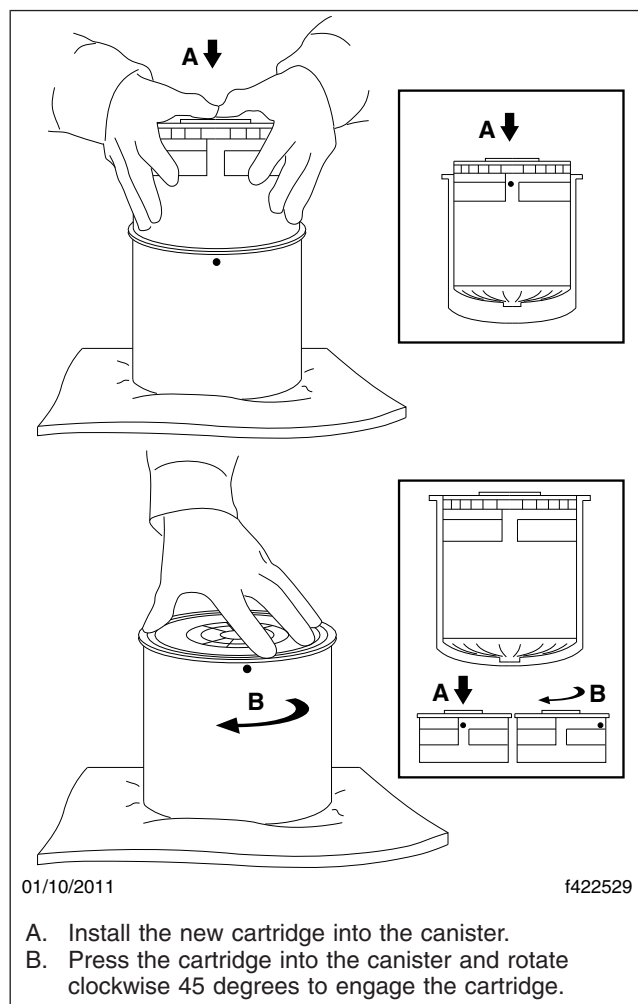

Fig. 4, Cartridge Rotation and Engagement
7. Install the new cartridge into the canister. Align the slots on the cartridge with the dimplets inside the canister. Press the cartridge into the canister and rotate clockwise 45 degrees to engage the cartridge, as shown in **Fig. 4**.